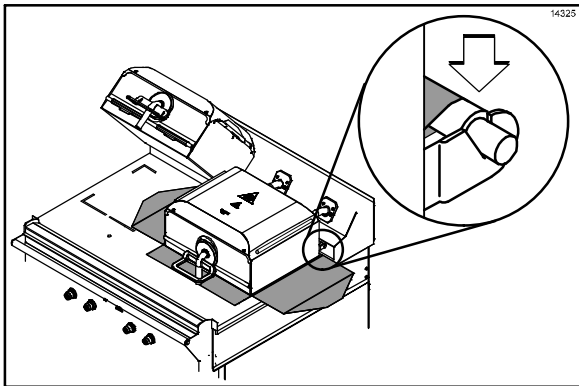

Figure 12
2. Engage the material retention bar into the hooks provided on the platen. (See Figure 12.)